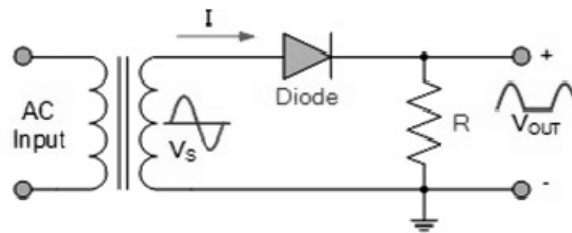

Figure1: Half Wave Rectifier
1. Connect the Electronic circuit for half wave rectifier on bread board as shown in Figure 1.